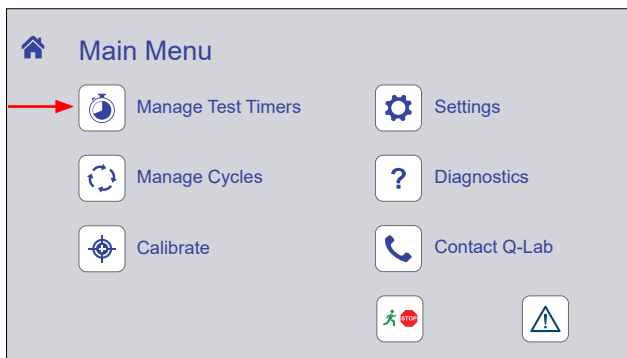

Figure 8.6a: Manage Test Timers icon.
- On the Main Menu screen touch the Manage Test Timers icon to display the Manage Test Timers screen (Figure 8.6a).